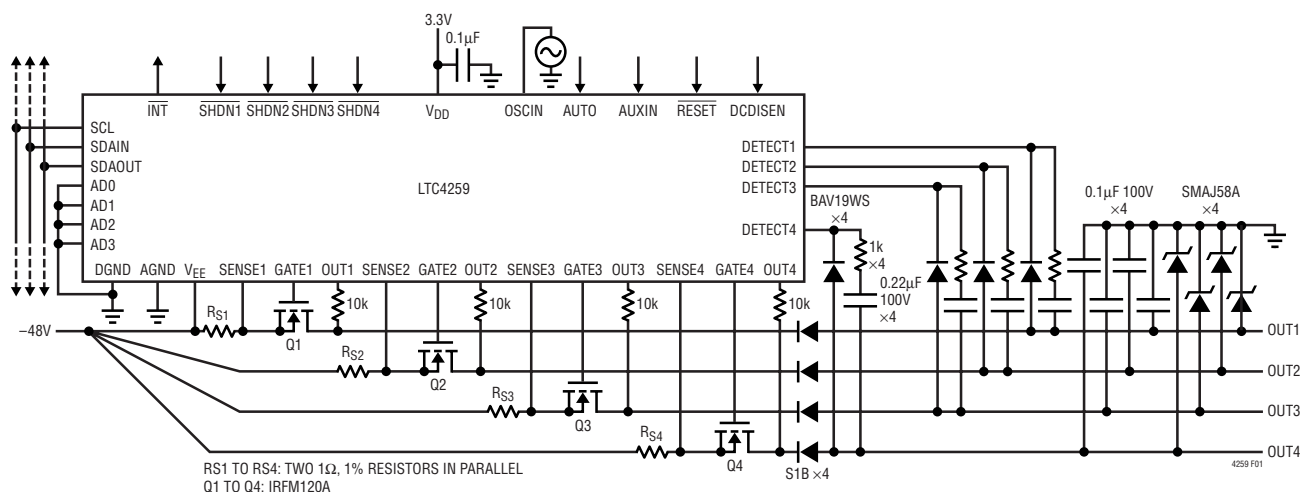

Figure 1. Complete 4-Port Powered Ethernet Power Source
The LTC®4259 is a quad –48V Hot Swap™ controller designed for use in IEEE 802.3af compliant Power Sourcing Equipment (PSE). It consists of four independent channels, each with inrush control, short-circuit protection, complete powered device (PD) detection and classification capability, and programmable PD disconnect using AC or DC sensing. Used with power MOSFETs and passives, as in Figure 1, the LTC4259 can implement a complete IEEE 802.3af compliant PSE.